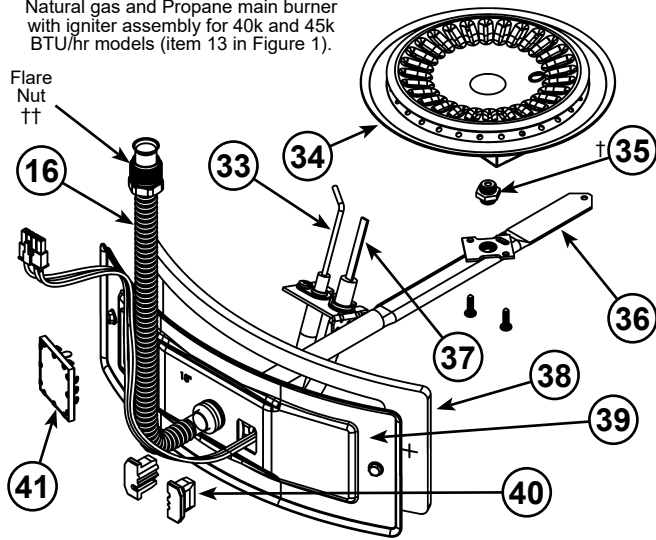
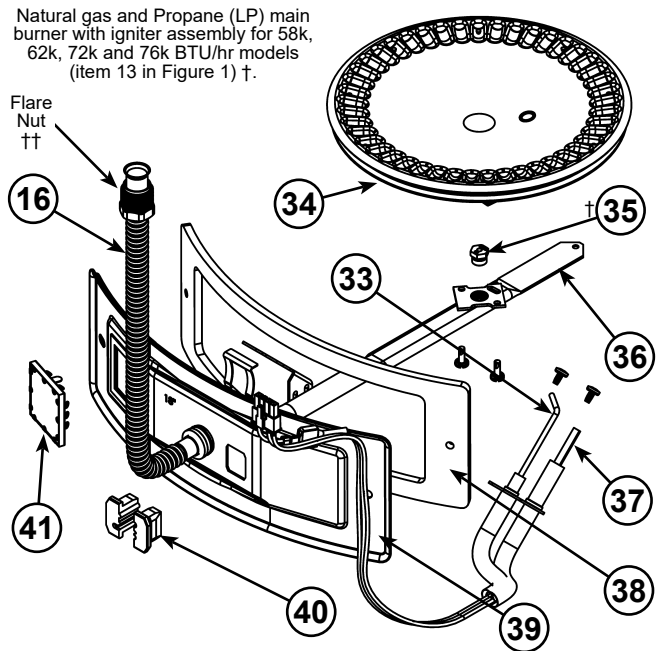
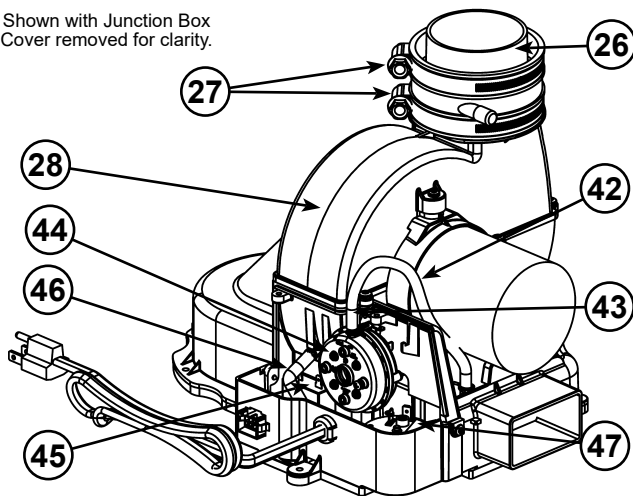

Figure 3.
Figure 4.
Figure 5.
| 1 Termination Elbow with Vent Screen                                    | 16 Flexible Manifold Tube (see Figure 3 & Figure 4)                                      | 35 Gas Orifice (see Figure 3 & Figure 4)                        |
| 2 *Vent Pipe  | 17 ***Control Harness  | 36 Gas Manifold (see Figure 3 & Figure 4)                       |
| 3 *Vent Pipe Elbow (long radius)  | 18 *Sediment Trap  | 37 Hot-Surface Igniter (see Figure 3 & Figure 4)                |
| 4 *Union (Di-electric water connection)                                 | 19 *Ground Joint Union (gas connection)  | 38 Manifold Door Gasket (see Figure 3 & Figure 4)               |
| 5 Cold-Water Inlet Nipple/Diptube                                       | 20 *Main Manual Gas Shut-off Valve   | 39 Manifold Door (see Figure 3 & Figure 4)                      |
| 6 **Combo Heating System Supply Outlet (Optional)                       | 21 *Gas Supply*  | 40 Two Piece Grommet With Clip (see Figure 3 & Figure 4)        |
| 7 T&P Valve   | 22 Anode (under cap)   | 41 Viewport (see Figure 3 & Figure 4)                           |
| 8 *Discharge Pipe   | 23 Baffle Assembly   | 42 Air Tubing (Intake) (see Figure 5)                           |
| 9 **Combo Heating System Return Inlet (Optional)                        | 24 Hot-Water Outlet Nipple/Anode   | 43 Blower High Limit Switch (see Figure 5)                      |
| 10 Gas Control Valve/Thermostat (Honeywell)                             | 25 *Inlet Water Shut-off Valve   | 44 Intake Air Pressure Switch (NC) (inside box) (see Figure 5)  |
| 11 Drain Valve  | 26 ****Rubber Coupling (see Figure 5)  | 45 Capacitor (see Figure 5)                                     |
| 12 Outer Gas Door   | 27 Gear Clamp (see Figure 5)   | 46 Air Tubing (Exhaust) (see Figure 5)                          |
| 13 Manifold Door Assembly (behind outer door) (see Figure 3 & Figure 4) | 28 ***Blower with Power Cord (see Figure 5)  | 47 Exhaust Air Pressure Switch (NO) (inside box) (see Figure 5) |
|   | 33 Flame Sensor Rod (see Figure 3 & Figure 4)  |   |
|   | 34 Sheet Metal Burner (see Figure 3 & Figure 4)  |   |
This device is located on the blower (see Figure 5, item 43) and limits the maximum temperature of the blower. If the blower temperature rises above the temperature setting, the switch opens causing the heater to shut down.
The blower/heater is equipped with two air pressure switches located in the junction box (see Figure 5, item 44 and item 47). These devices are connected in series and monitor the air pressure produced by the blower. In the event that the exhaust venting becomes blocked or sufficiently restricted, the normally open (NO) air pressure switch will shut down the heater. In the event that the intake pipe becomes sufficiently blocked or restricted, the normally closed (NC) air pressure switch will shut down the heater.